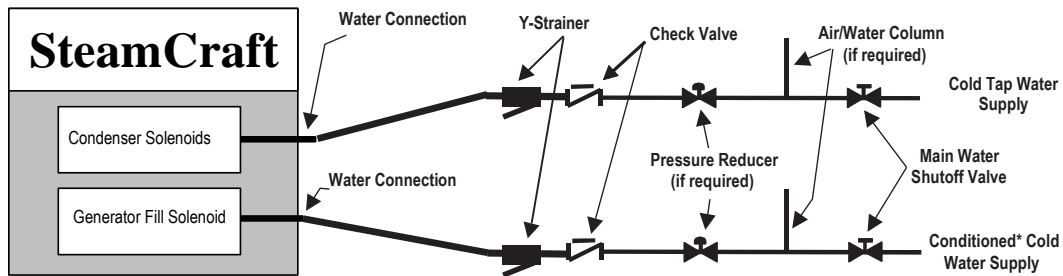

Figure 3-3 Cleveland Range Separate Water Supply Arrangement
- d. If the water supply fails to meet the requirements shown in the Warranty, then use the Separate Feed Water Supply Arrangement shown in Figure 3-3.